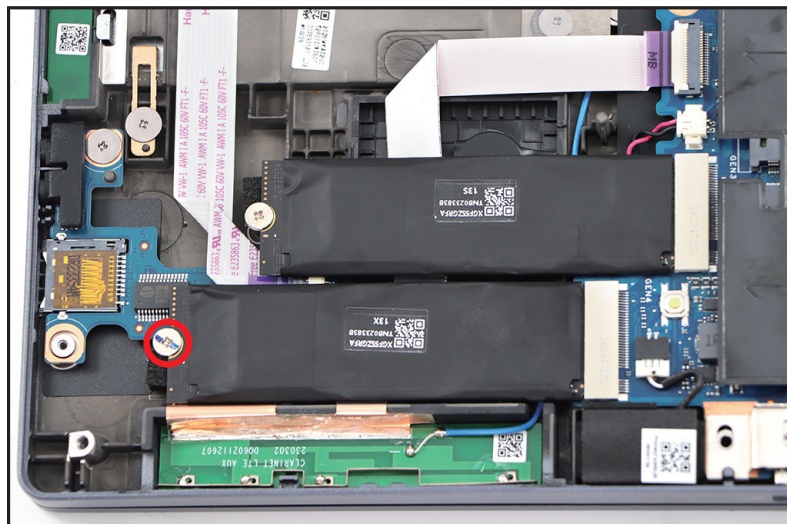

Figure 1-32. SSD Module Removal
2. Remove one (1) screw securing the SSD module (Figure 1-32).